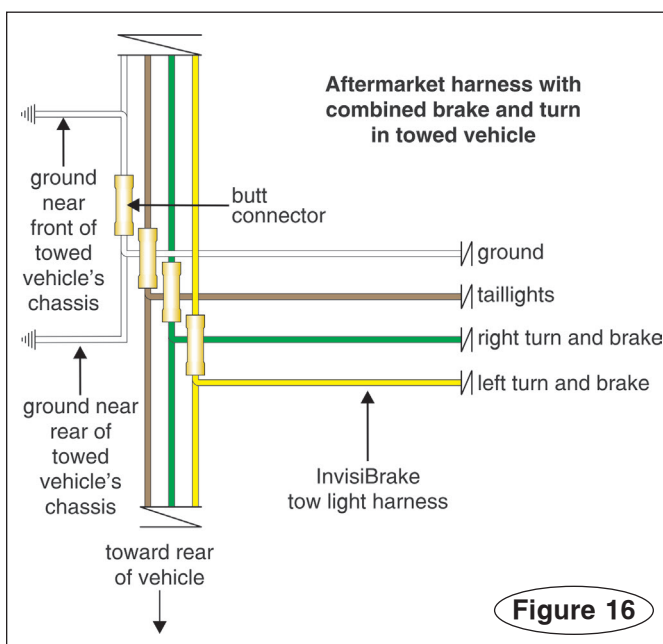

Figure 16
4. Refer to Figure 16 or 17 and to the complete wiring schematics near the beginning of these instructions to attach the four-wire flat harness.